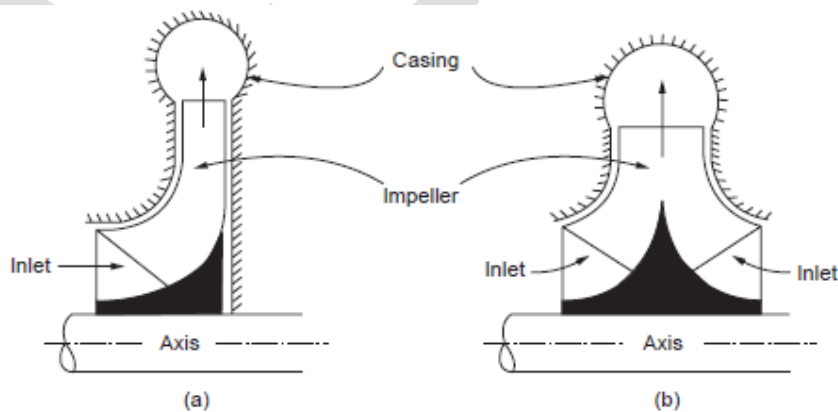

Fig. 5.2 Classification based on fluid entrance
**5.3.2 Based on Fluid Entrance:** Based on fluid entrance centrifugal pumps are classified as single entry and double entry pumps as shown in figure 5.2.